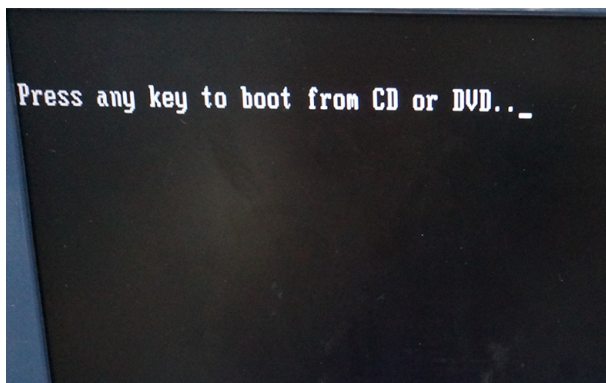

Figure 8-20 Update message
- 4.) Press any key to continue when below message displays, refer to Figure 8-20 on page 8-10 .